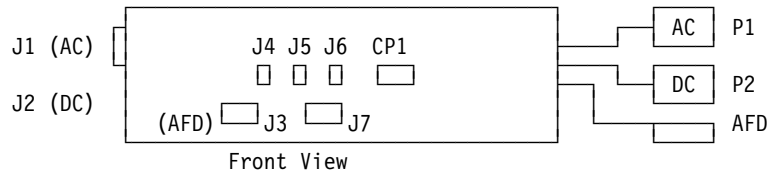

Figure 5-16. 3746-L Auxiliary Power Box (Front View)
- Step 2. \_\_\_\_ Route cable **3** to the front of the 3746-L13 auxiliary power box, and plug it to connector at 04A-A0J3 (see Figure 5-16).
- Step 2. \_\_\_\_ Route cable **3** to the front of the 3746-L14 auxiliary power box, and plug it to connector at 05A-A0J3 (see Figure 5-16 on page 5-19).